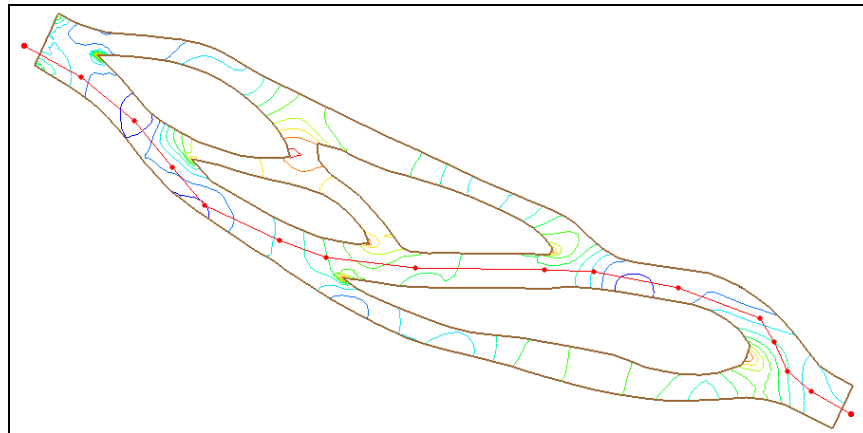

Figure 17 Observation arc, created from top left to bottom right
5. Using the **Create Feature Arc**  tool, create an arc down the main channel, double-clicking to end the arc (Figure 17).